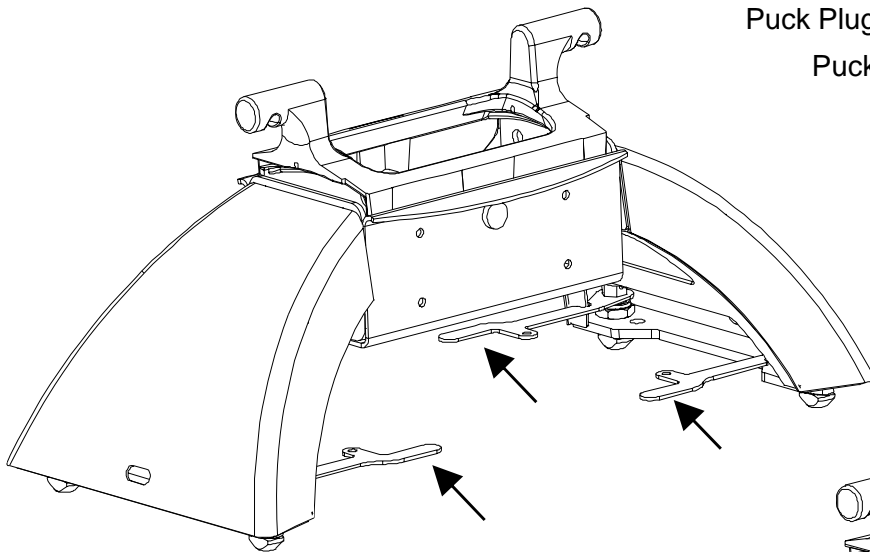

Figure 16: Anchor Handles in Unlocked Position
2. Set Elite Series hitch onto the pucks, and rotate handles into unlocked position (approximately perpendicular with base arch, Figure 16) until hitch drops into pucks on all (4) corners.
4. Rotate (4) handles into unlocked position (perpendicular with base arch shell, Figure 16). Lift each side of hitch out of pucks separately, handles may have to be jiggled slightly to align anchors with puck holes to remove.